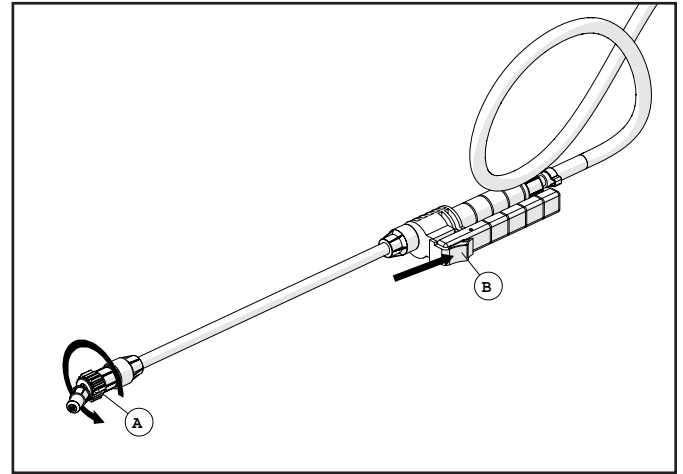

Figure 1
5. The spray gun's liquid flow can be adjusted by turning the spray tip (a) at the end of the spray gun wand. The spray gun's trigger can also be locked in the "on" position by sliding the plastic tab (b) on the top of the trigger towards yourself as shown in Figure 1.